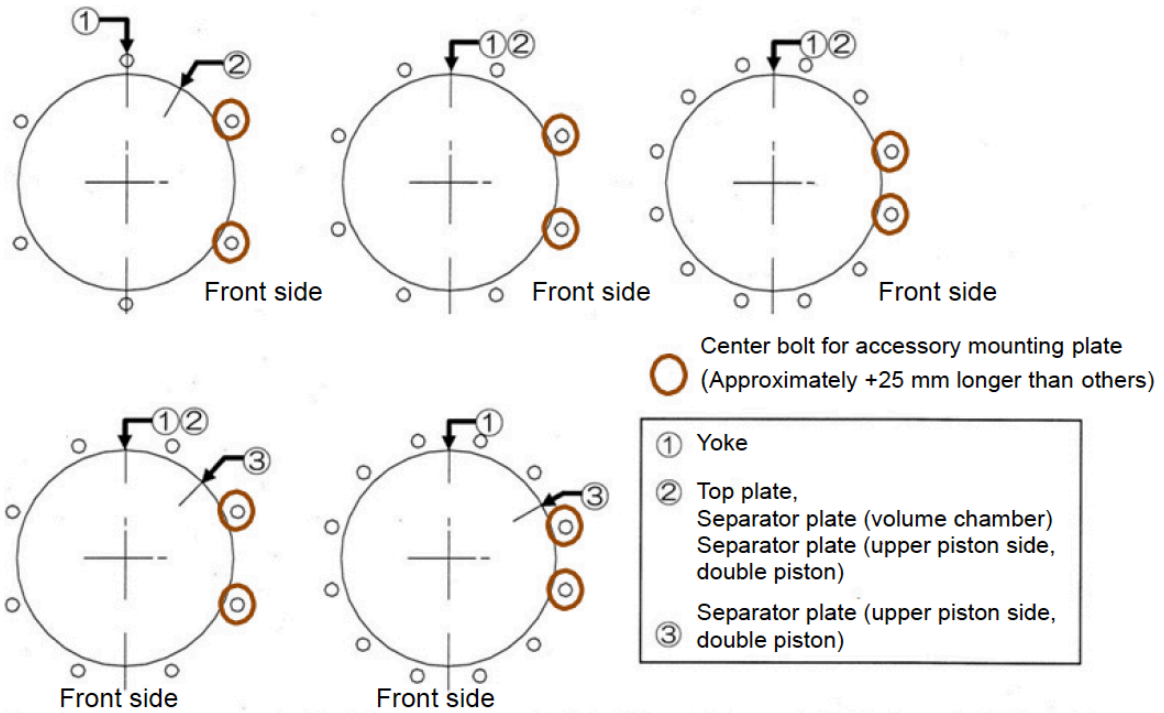

Figure 13 - Center Bolt Positioning
7. Replace Cylinder Tube (14), and Top Plate (17) with only axial movement. Coat the inner surface of the Cylinder Tube with silicone grease.
- Ensure the positions of the air connections are correct. Insert the Center Bolts into the holes of the Top Plate and Yoke. Mount the Spring Washers and Nuts and tighten them lightly by hand. Mount the Spring Washers and Nuts to the bottom side of the Yoke by hand. Ensure that the position of Center Bolts (Approximately +25 mm longer than others) for the accessory mounting plate, if equipped, complies with Figure 13.